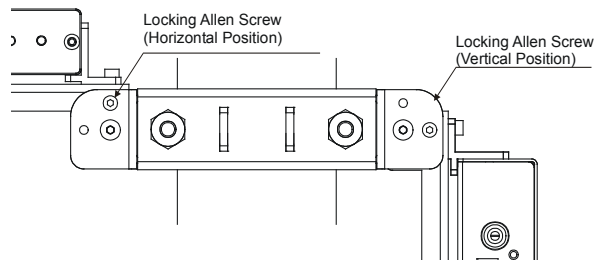

Figure 7: Setting the Wing Position
The **PTH-1** can be installed in the horizontal or vertical position (downwards or upwards, see Figure 7). Figure 1, Figure 2 and Table 2 define the **PTH-1**:
- Set the wings in the horizontal or vertical (upwards or downwards) position by removing the Allen screws and replacing them in the new position (see Figure 7)
Figure 7 shows how to set a wing to the horizontal or vertical position: